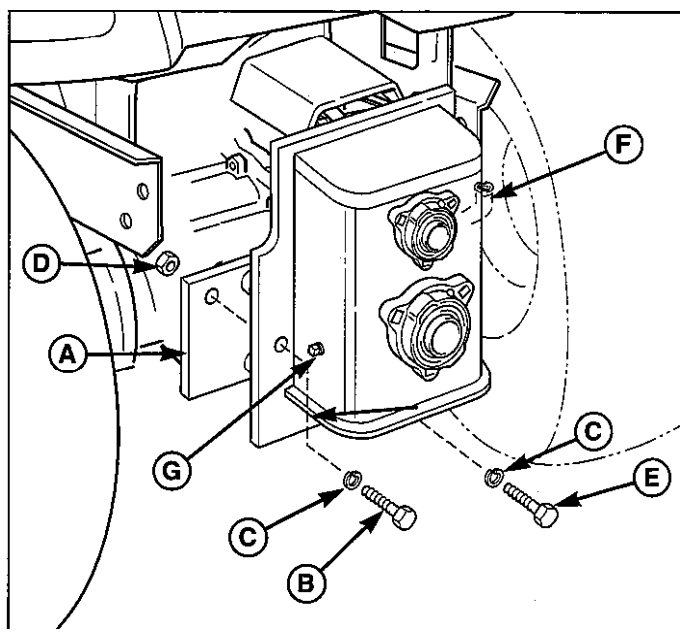

Figure 5. Mount and Secure PTO Box
6. Align the input shaft of the PTO box with the output shaft of the hydro pump and slide the PTO box into position (see Figure 5). Be sure to push the PTO box fully into position so that the alignment pins support the weight of the box; DO NOT allow the hydro pump output shaft to support the full weight of the PTO box.
7. Secure the PTO box to the mounting plate (A, Figure 5) using two 1/2-13 x 1-1/4 capscrews (B), lock washers (C), and nylon locknuts (D).
8. Secure the PTO box to the transmission using one 1/2-13 x 1-3/4 capscrew (E, Figure 5) and lockwasher (C). Torque to 60-65 ft. lbs. DO NOT over-torque.
9. Remove the fill level plug (G, Figure 5) and oil fill plug (F).